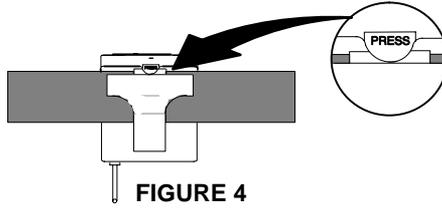

FIGURE 4
1. Depress the tab marked PRESS and slip your belt, waist band or guitar strap between the transmitter body and the belt clip (Figure 4).